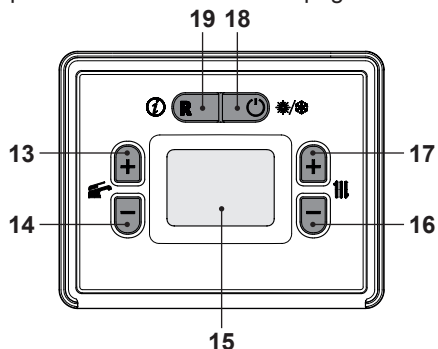

Fig. 8.19
- By using keys 16 or 17 (Fig. 8.19) it is possible to modify the value of parameter A02:
- With the value flashing, pressing key 18 (Fig. 8.19) will confirm the value entered and activate the function.
- From the parameter list, pressing key 18 (Fig. 8.19) will exit the “programming mode.”